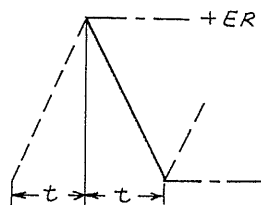

Fig. 4-4
When the constant current that is charging integrating capacitor C is expressed as I, and the voltage comparator is set at -Er and +Er, and time t from +Er to -Er is set as shown in Fig. 4-4, the following formula (1) can be obtained;
Since oscillation frequency f is 1/2t as shown in Fig. 4-4, formula (1) is expressed as follows;